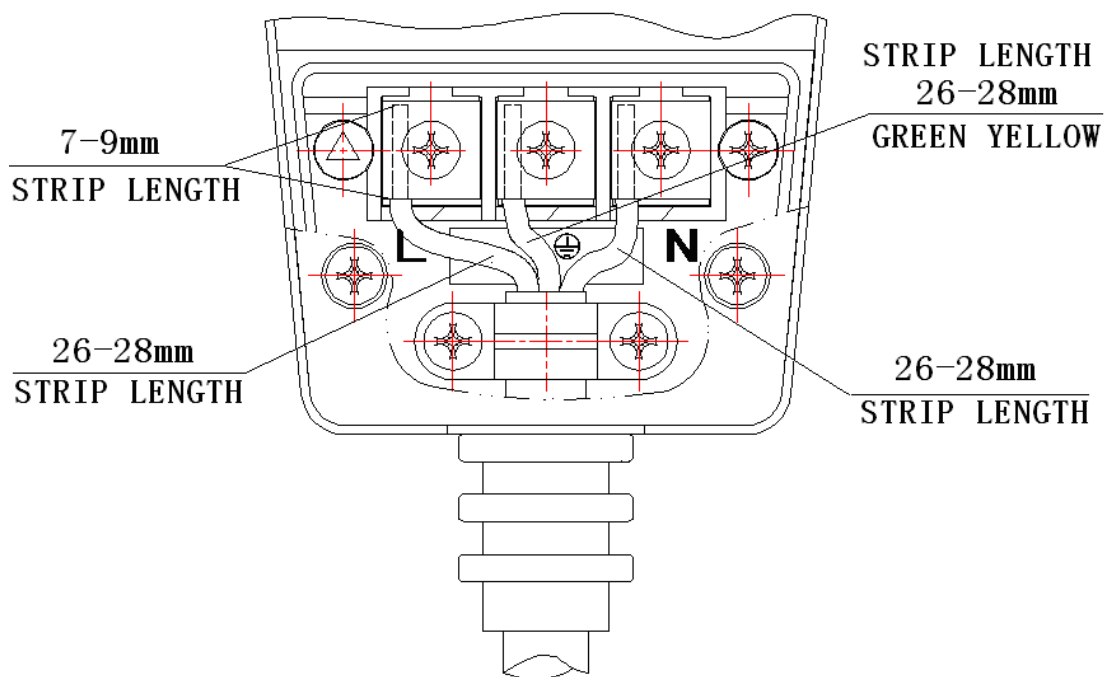

Figure 1
- 1). SEEK WIRING RULE IN USER MANUAL (Figure 1);
Wiring rule (figure 1)